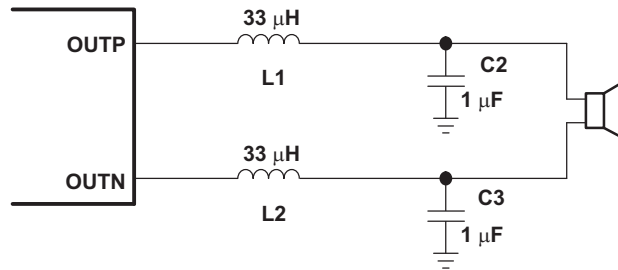
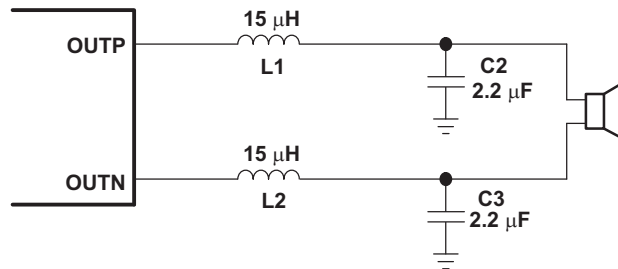

Figure 39. Typical LC Output Filter, Cutoff Frequency Of 27 kHz, Speaker Impedance = 8 Ω
Figure 40. Typical LC Output Filter, Cutoff Frequency Of 27 kHz, Speaker Impedance = 4 Ω
- **Output filter**—The ferrite EMI filter (Figure 41) should be placed as close to the output terminals as possible for the best EMI performance. The LC Filter (Figure 39 and Figure 40) should be placed close to the outputs. The capacitors used in both the ferrite and LC Filters should be grounded to power ground.